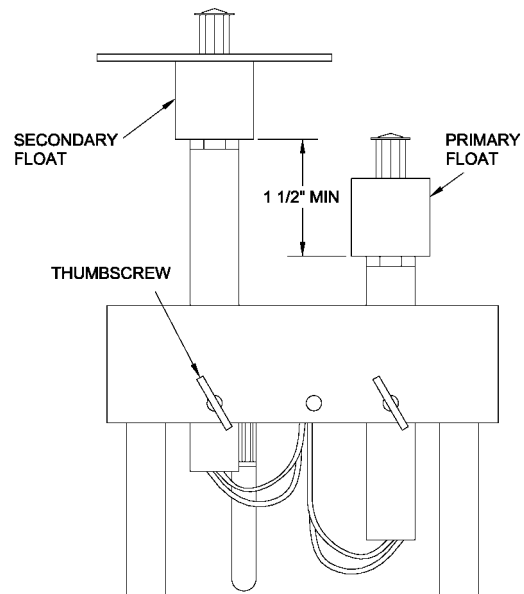

Figure 3-3. Final Adjustment on Secondary Float
9. Remove the transmitter from the skimmer chamber and adjust the **secondary** float mount to position secondary float 1 1/2 inches below the primary float (figure 3-3).
6. After adjusting the primary float mount, make certain the secondary float is still positioned at least $1 \frac{1}{2}$ inches below the primary float (see figure 3-3).